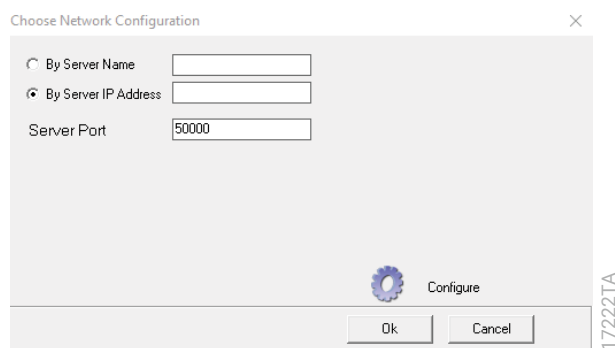

Figure 43. Entering server information in the 'Choose Network Configuration' window.
5. Enter the Server Name or Server IP Address of the computer where the LSM is installed (Figure 43).